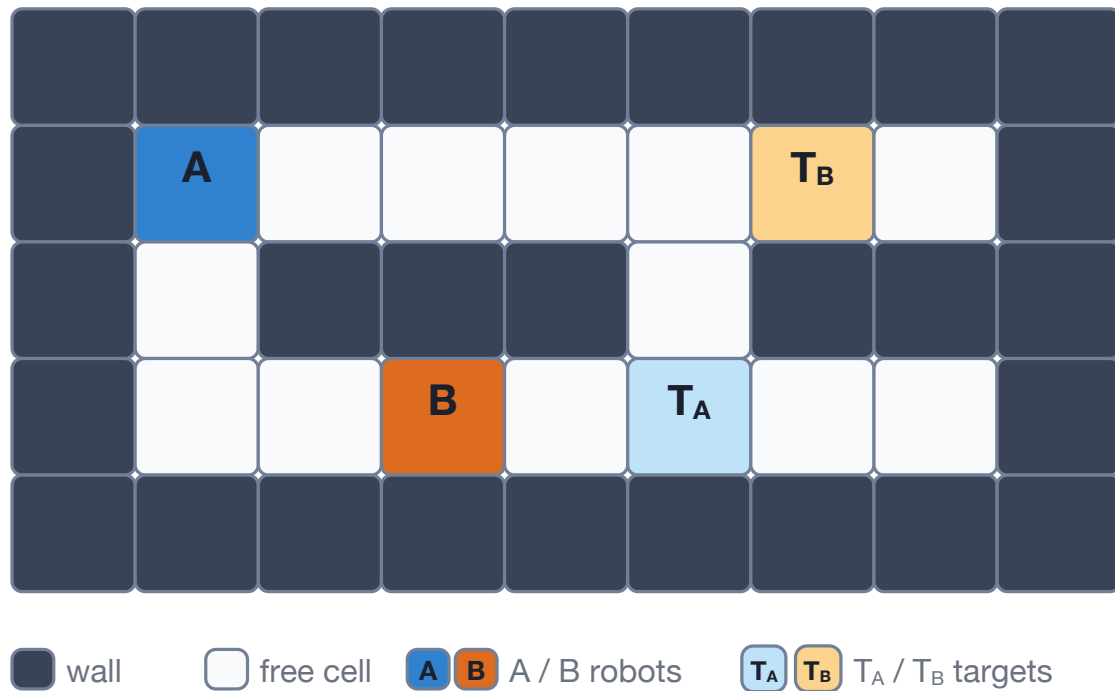

Figure 1: An example of a hospital map
A hospital deploys two courier robots. Robot A carries medication and Robot B carries lab samples. Each robot has a start-point (denoted S_A for Robot A, S_B for Robot B) and a designated *target* (denoted T_A for Robot A, T_B for Robot B) to deliver their product to. The hospital map is represented as a rectangular grid containing walls and free cells, where the start-points and targets of both robots are free cells, see Figure 1 for an example. The goal is for the robots to reach their targets as quickly as possible. We consider a discrete-time setting. At time $t=0$, Robot A is in cell S_A , and Robot B in cell S_B . At each step of time (called a *tick*), both robots choose either to move into an adjacent cell (in North, East, South, or West directions) in the map, or to remain in their current position. As such, at each tick, both robots choose one move from $\{N, E, S, W, WAIT\}$.
- Robots may not move into walls or outside the map. For example, in Figure 1, Robot A can only move East, South, or WAIT, since otherwise it would move into a wall. Similarly Robot B can only move East, West, or WAIT.
- After a tick, robots must occupy different cells. For example, in Figure 1, we could not have Robot A moving S-S (South then South) and Robot B moving W-W, since then both robots would occupy the same cell (the free cell in the bottom-left corner).
- Robots may not swap cells in the same tick. For example, in Figure 1, we could not have Robot A moving S-S-E and Robot B moving W-WAIT-W, since the robots would swap cells on the last tick.
The *makespan* of a synchronised schedule is the number of ticks in the schedule (the length of the sequence). A synchronised schedule is said to be *optimal* if it minimises the makespan; that is, there are no synchronised schedules with a smaller makespan. For example, consider the map on Figure 1, where the cells A/B represent the starting points of the two robots. Then (E, E), (E, E), (E, N), (WAIT, N), (E, E), (S, WAIT), (S, WAIT) is a synchronised schedule with makespan 7. However, it is not optimal, since there exists a synchronised schedule with makespan 6 given by (S,E), (S,E), (E,N), (E,N), (E,E), (E,WAIT). This latter synchronised schedule is optimal (for example, note that it will always take Robot A at least six moves to reach its target). However, it is not the only optimal synchronised schedule. Indeed, the WAIT move for Robot B could be inserted at any point in its move sequence E-E-N-N-E while leaving Robot A's moves unchanged (S-S-E-E-E-E).